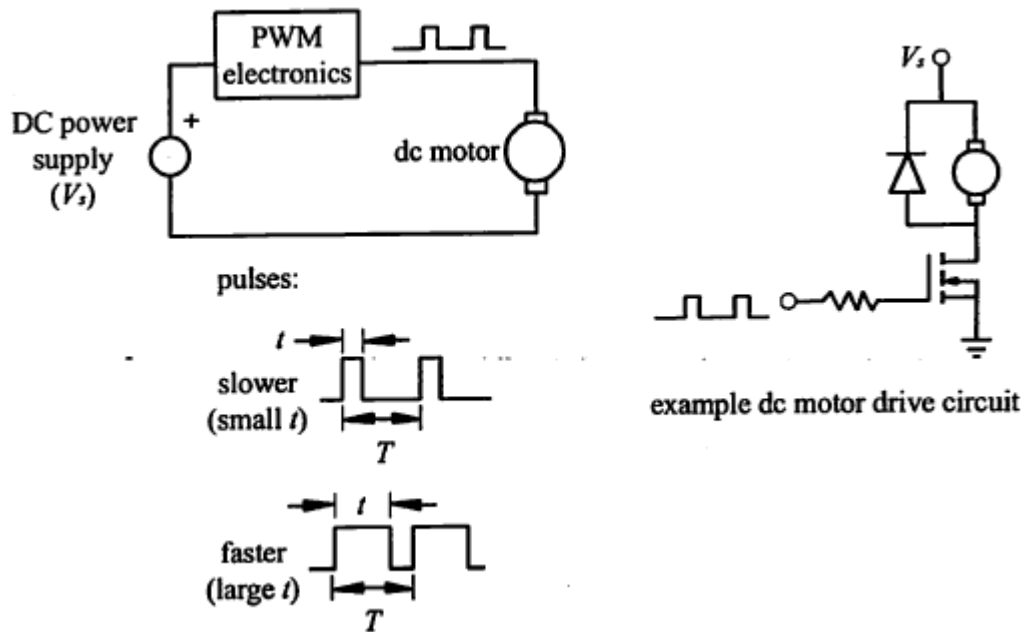

Figure 14.1 Pulse-width Modulation (PWM)
**Pulse width modulation (PWM)** offers a very simple way to control the speed of a dc motor and is one of the building blocks of a DC->AC inverter. Figure 14.1 illustrates the principles of operation of PWM